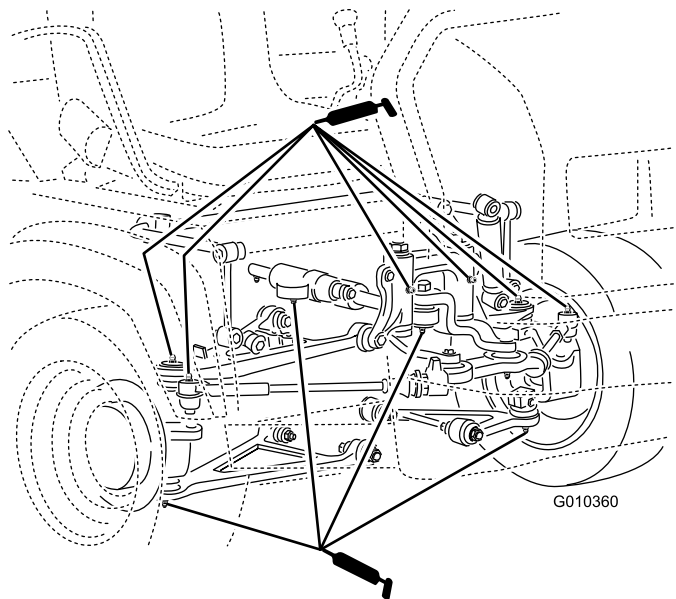

Figure 27
- **Ball joints (4);** refer to Figure 27
- **Tie rods (2);** refer to Figure 27
- **Pivot mounts (2);** refer to Figure 27
- **Steering cylinder (2);** refer to Figure 27